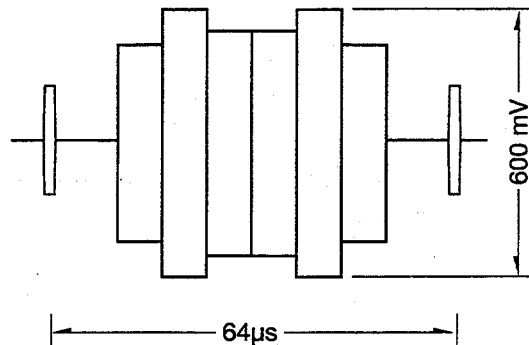

Fig. 9
4. Adjust T802 to the waveform max ( $\sim 800\text{mV p-p}$ ) and then advance, to achieve the waveform for about  $600\text{mV p-p}$ , as showed in Fig. 9.